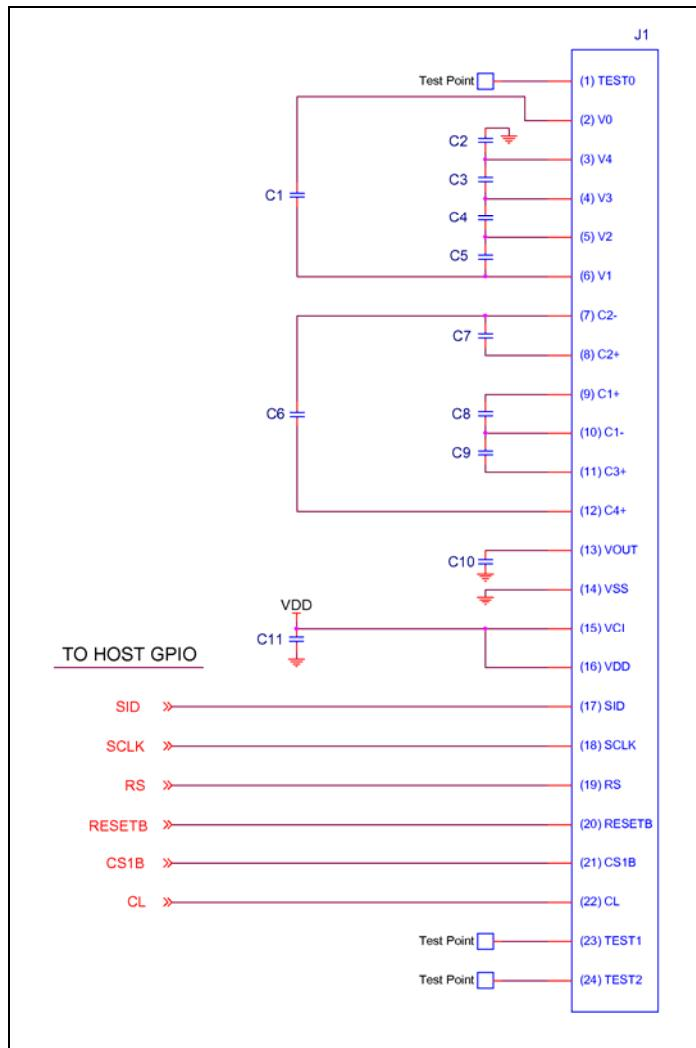

Figure 1: Reference Schematic
The display module interfaces to the host electronics through a 24-contact flex cable (see Figure 1). Electrical connection may be made by using a 0.5 mm pitch flat flex connector (Hirose part number FH12-24S-0.5SH(55) or equivalent) or by bonding to pads directly on the host PCB.